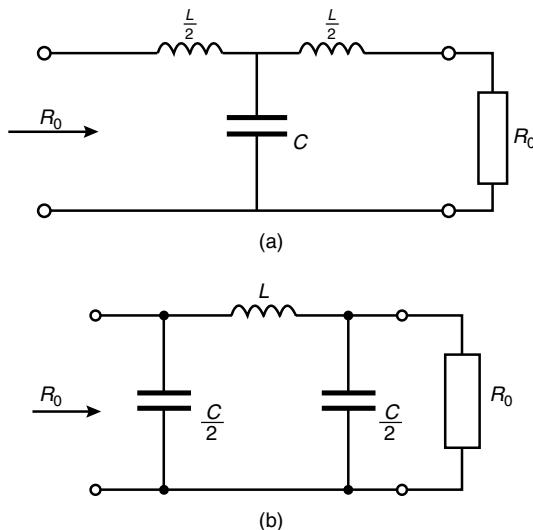
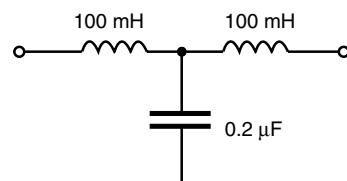
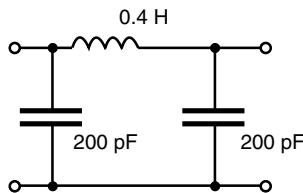
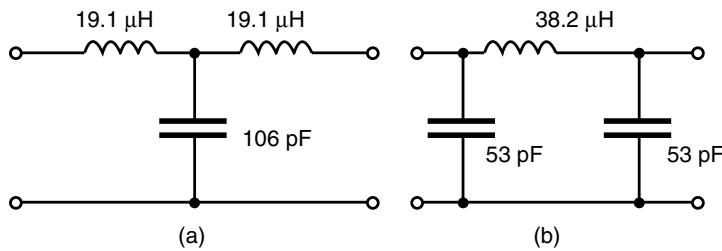

Figure 17.7
Figure 17.8
Figure 17.9
Figure 17.10
A low-pass symmetrical T-network and a low-pass symmetrical π -network are shown in Figure 17.7. It
Problem 1. Determine the cut-off frequency and the nominal impedance for the low-pass T-connected section shown in Figure 17.8.
Comparing Figure 17.8 with the low-pass section of Figure 17.7(a), shows that:
Problem 2. Determine the cut-off frequency and the nominal impedance for the low-pass π -connected section shown in Figure 17.9.
Comparing Figure 17.9 with the low-pass section of Figure 17.7(b), shows that:
- (a) A low-pass T-section filter is shown in Figure 17.10(a), where the series arm inductances are each $\frac{L}{2}$ (see Figure 17.7(a)), i.e. $\frac{38.2}{2} = 19.1 \mu\text{H}$
(b) A low-pass π -section filter is shown in Figure 17.10(b), where the shunt arm capacitances are each $\frac{C}{2}$ (see Figure 17.7(b)), i.e.